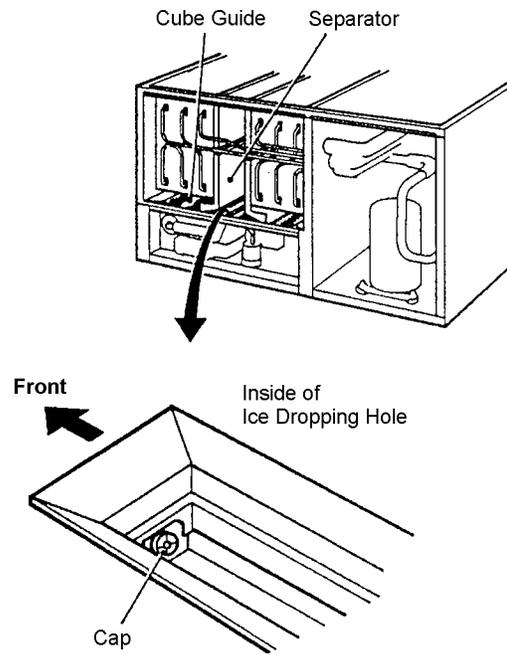

Fig. 3
- 3) Drain the Water Tank by removing the Insulation Panel and the Cap located on the front bottom part of the Ice Dropping Hole. See Fig. 3.
5) Drain the Water Tank by removing the Cap located on the front bottom part of the Ice Dropping Hole. See Fig. 3.
- 27) Drain the Water Tank by removing the Cap located on the front bottom part of the Ice Dropping Hole. See Fig. 3.